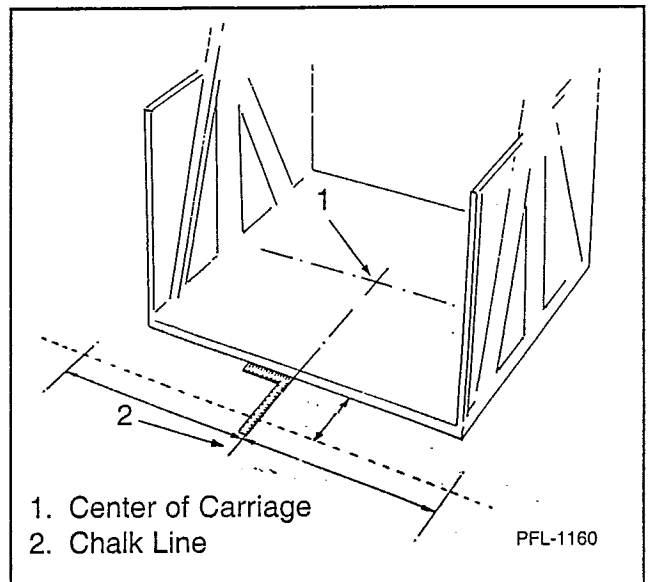

Figure 2
5. Locate and mark center of the carriage. Using a carpenter square held on the front edge of the carriage, mark a chalk line on the floor to assure the center of the gate is on the center line of the carriage. See Figure 2.